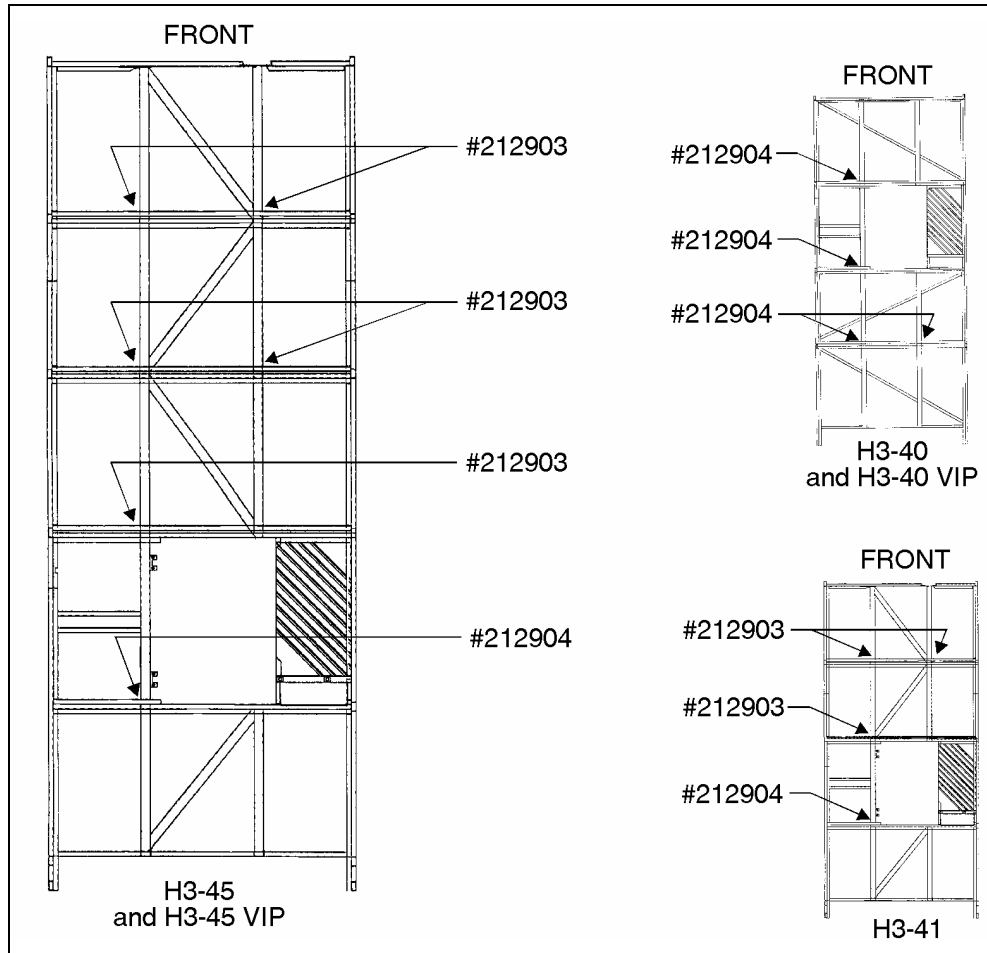
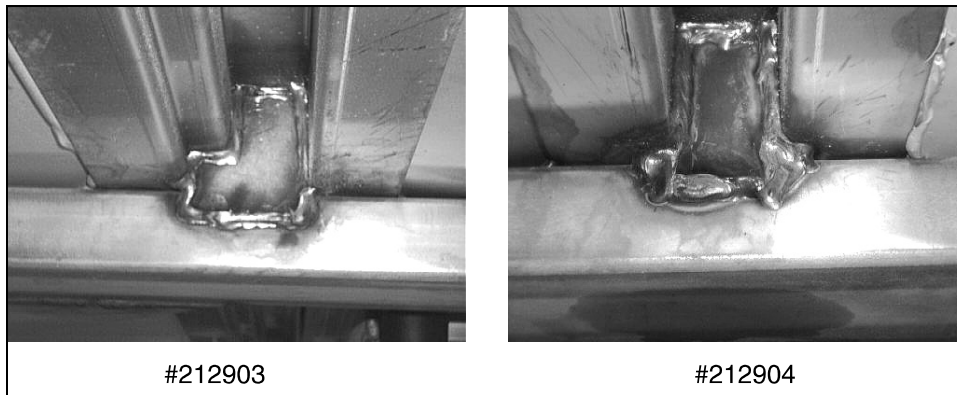

FIGURE 1: LOCALIZATION OF STRENGTHENING PIECES
FIGURE 2
- Under vehicle, identify positions where strengthening pieces should be installed (Refer to Fig. 1, showing vehicle from under, between front and rear axles, and Fig. 2).
4. Perform weldings as seen on figure 2 (Refer to step 5 for welding instructions).